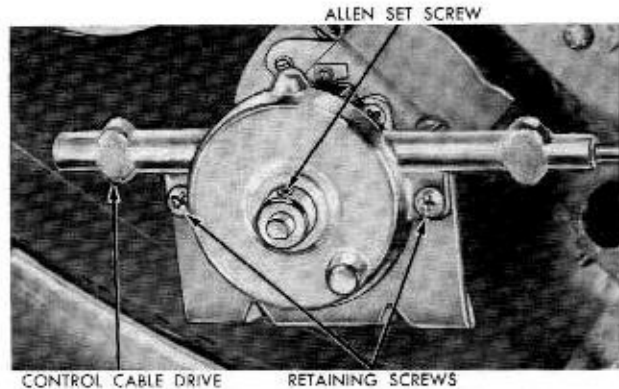

Fig. 5-8—Dial-Temp Control Shaft and Cable Drive—1958—(E-2627)
1. Loosen the Dial-temp shaft set screw; then, remove the dial and shaft assembly from the instrument panel. (See figure 5-8.)